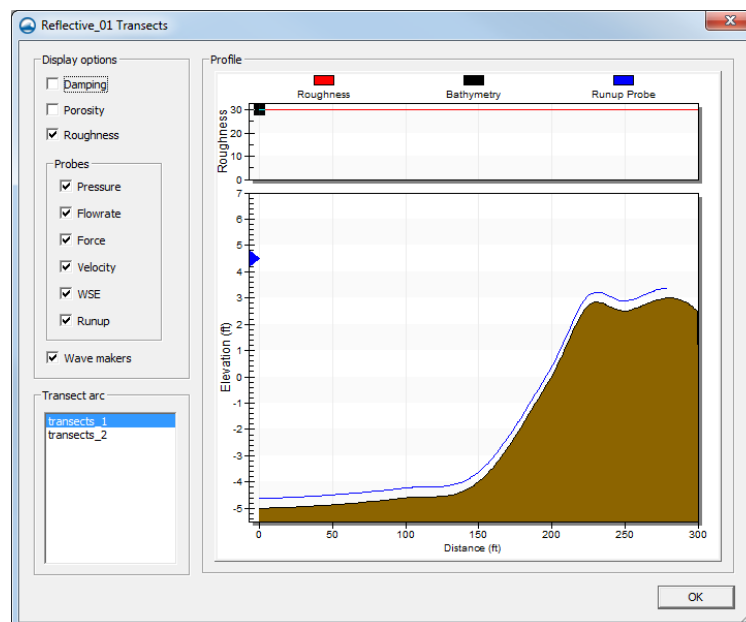

Figure 7 Wave maker marked by blue arrow
3. Right-click on the “Reflective_01” simulation and select **View transects profile...** to bring up the *Reflective_01 Transects* dialog (Figure 7).